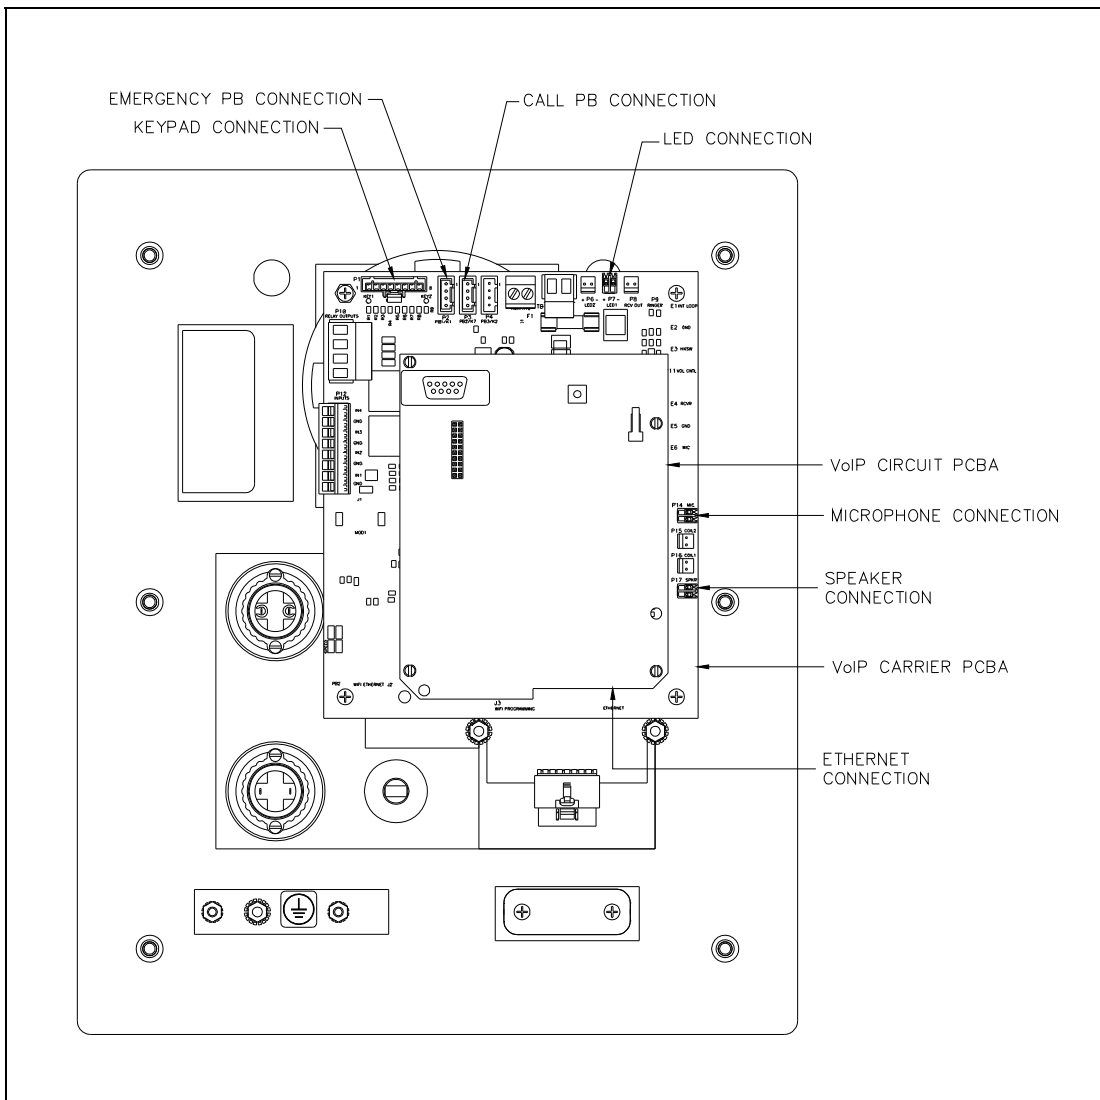
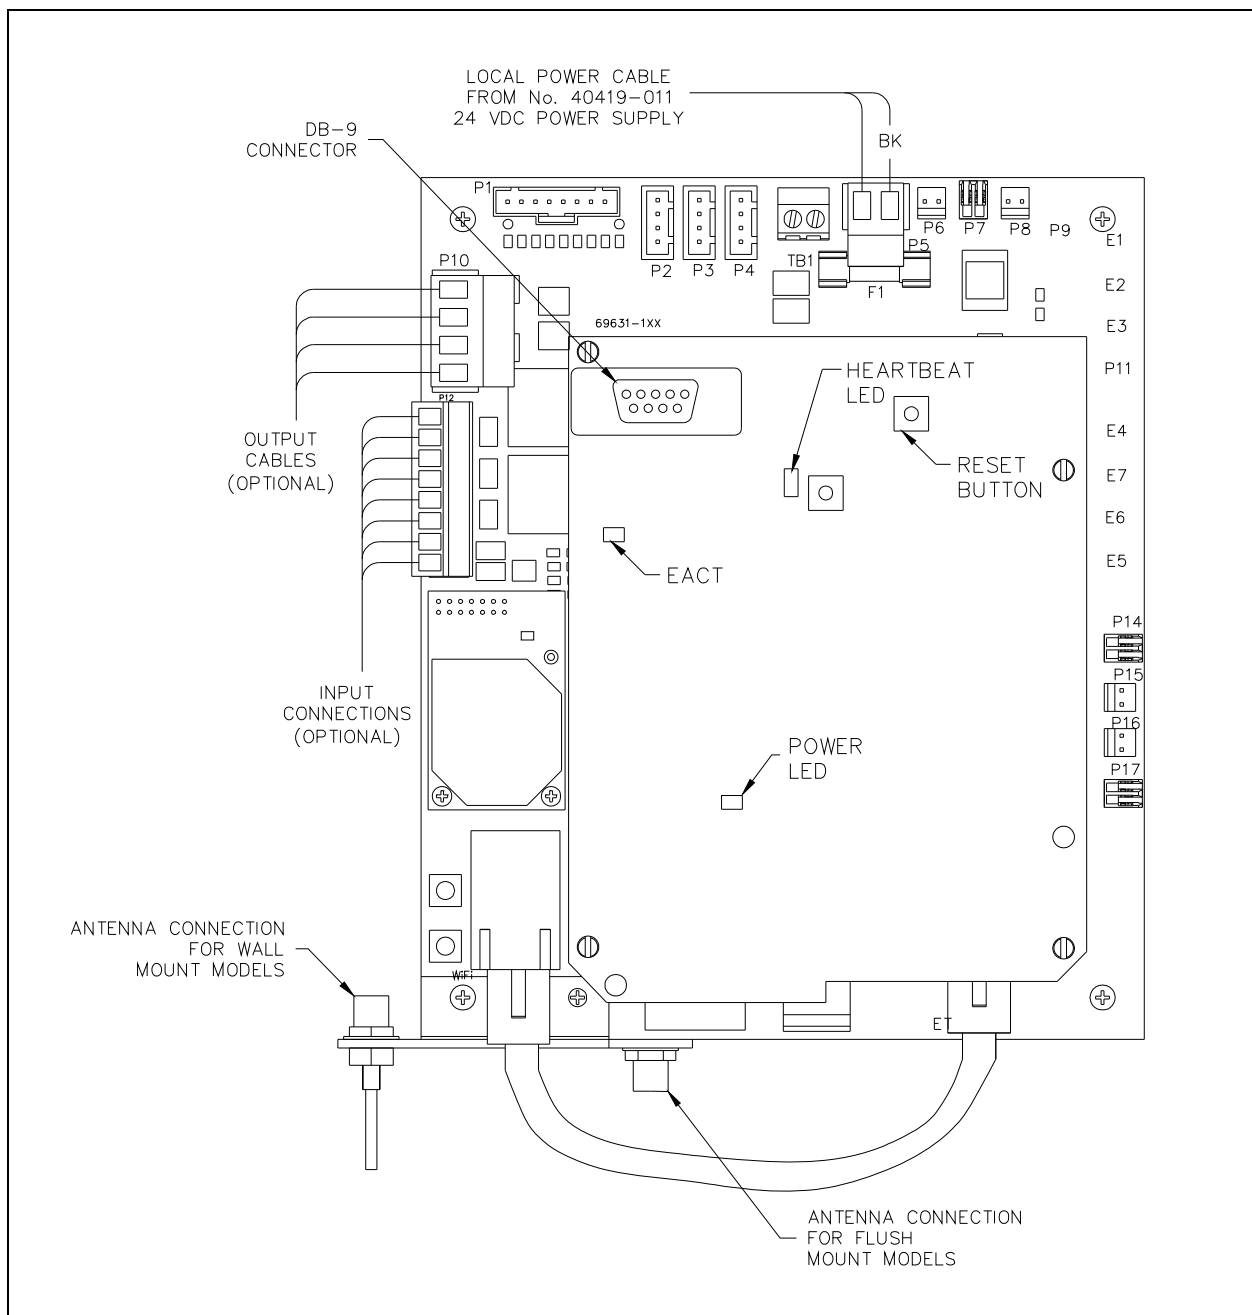

Figure 6. Models 397-700, 397-701, 398-701, and 398-702
Figure 10. VoIP/WiFi shown
1. Use the Model 233-001 Security Screwdriver to remove the six front panel screws; then remove the front cover after disconnecting the Ethernet cable, ground wire, and any applicable input/output, or local power connection cables from the PCBA. See Figure 6 and Figure 10.
- c. Model 398-702: There will be a second push-button switch cable and a keypad cable connection. Record the location of each connection for later reconnection. See Figure 6.
1. Align the holes in the four corners of the new PCBA with the standoffs in the telephone, maintaining proper orientation. See Figure 6.
4. Reconnect the Ethernet cable, ground wire and any additional external wires. Refer to Figure 10 on Page 18.
1. Use the Model 233-001 Security Screwdriver to remove the six front panel screws; then remove the front cover after disconnecting the ground wire and any applicable external cables to the PCBA, antenna cable, input/output or local power connections. Refer to Figure 10 on Page 18.